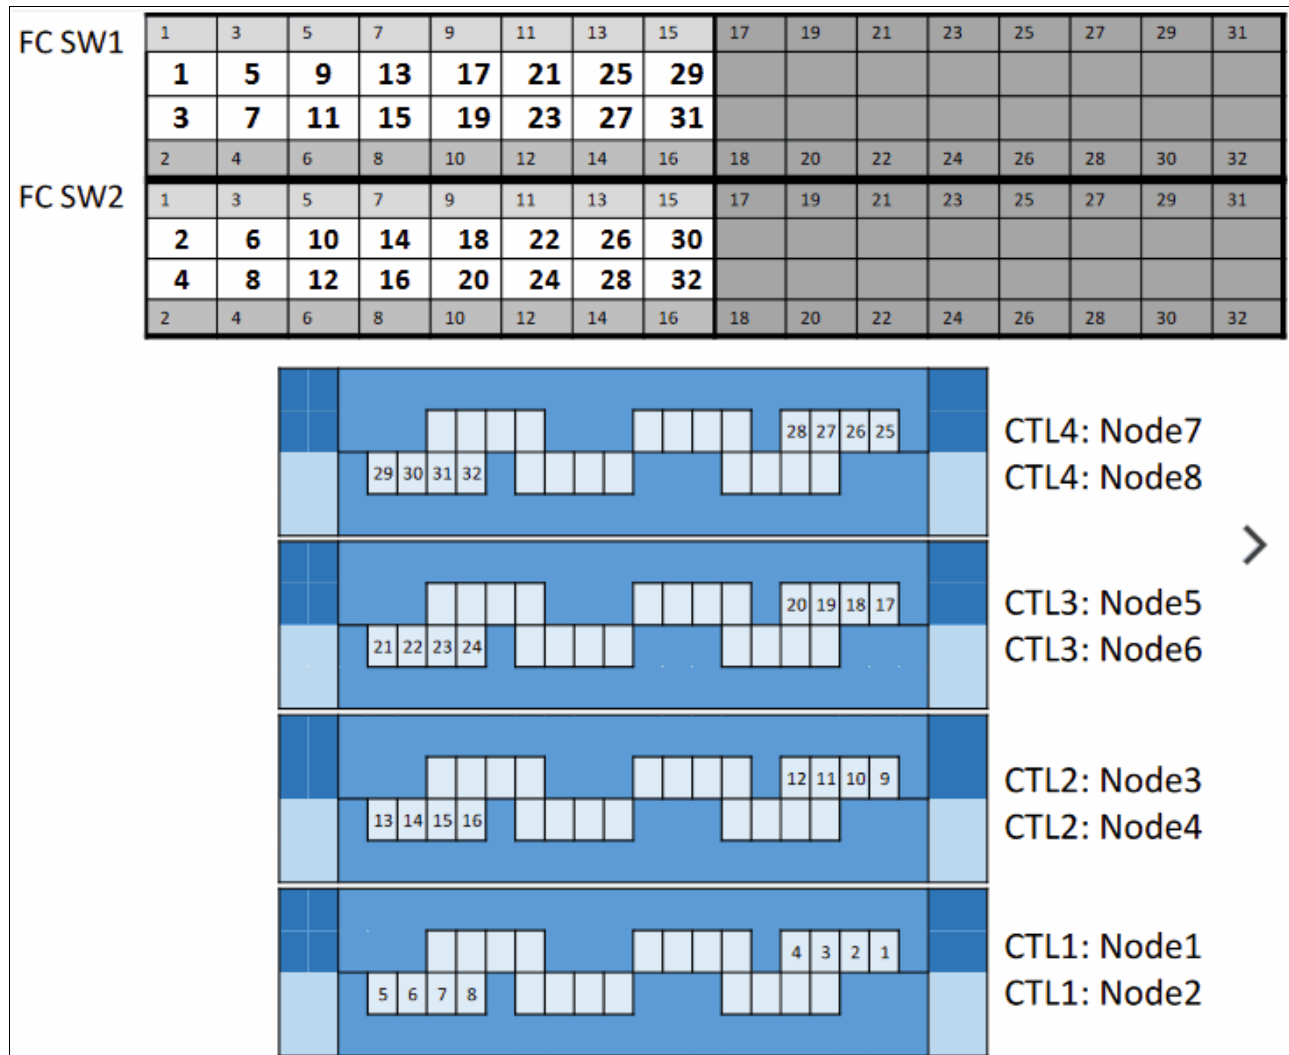

Figure 1-17 IBM FlashSystem 9200R Rack Solution FC with IBM SAN32C-6 switches
Figure 1-17 shows the IBM FlashSystem 9200R Rack Solution inter-system FC ports and the connections to the IBM SAN32C-6 switch ports.
- Shows the SAN32C-6 cabling diagram, where the top part of Figure 1-17 represents the SAN32C-6 port configuration layout.